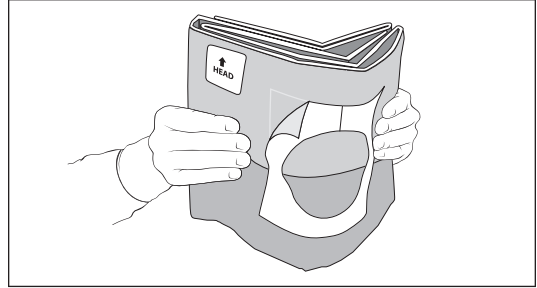

Figure 16
- Peel off fenestration backing (refer to Figure 16).